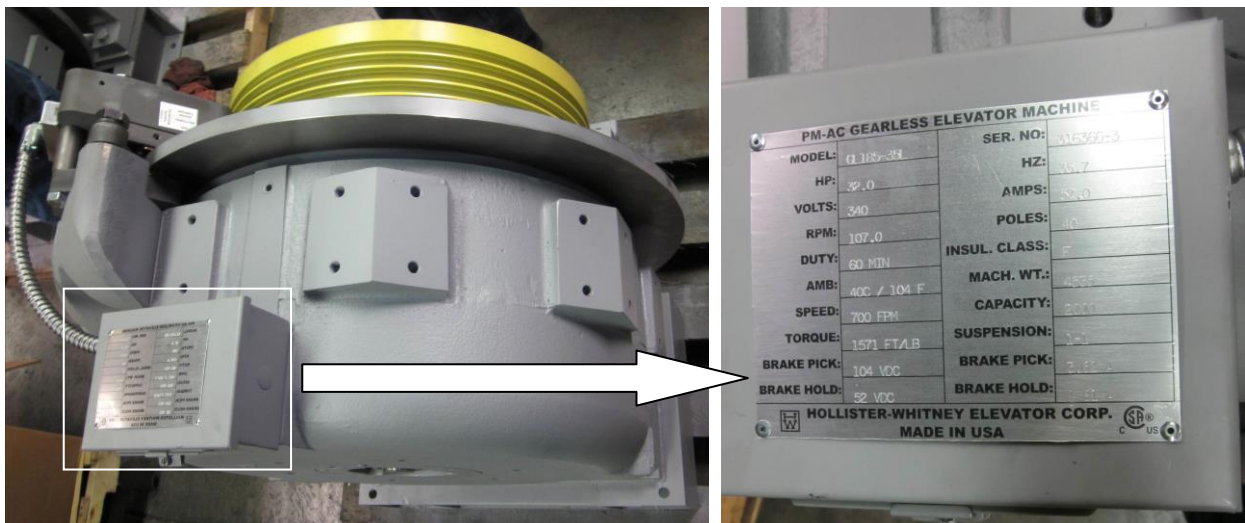

Figure 2
- Check the machine data tag to ensure the machine conforms to your order. (An example data tag is shown in Figure 2.)